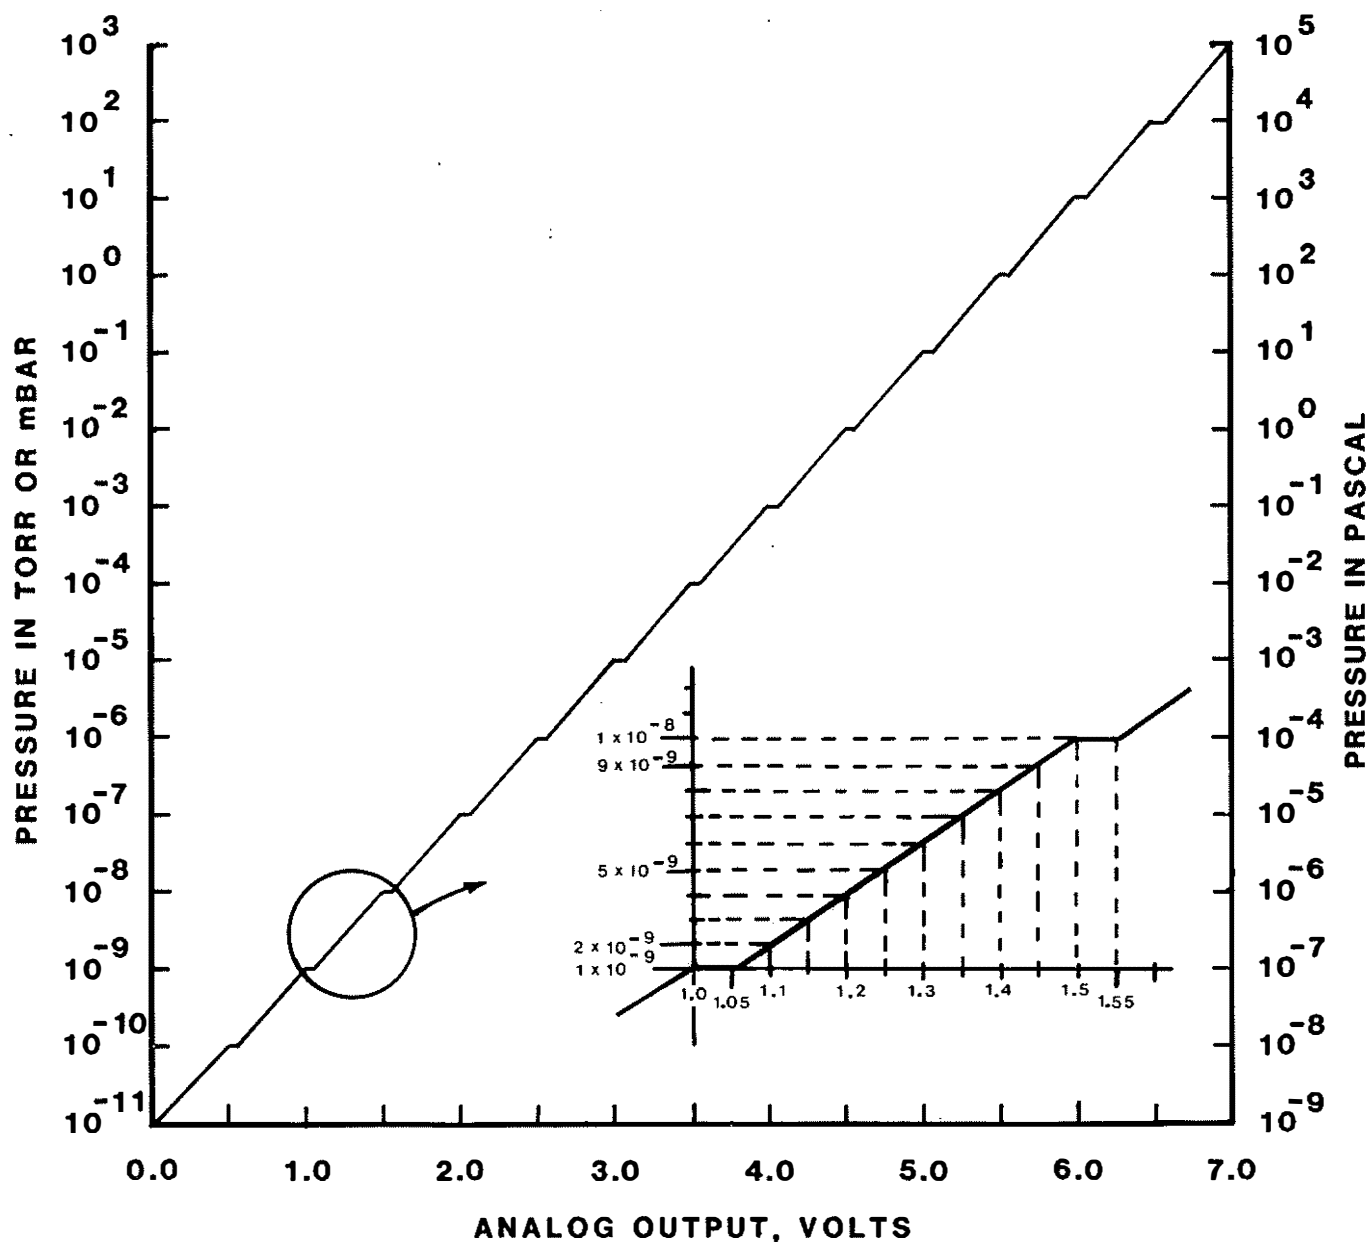

Figure 3-42. Analog Optional Pressure vs. Output Voltage
- a. The outputs are linearly proportional to the pressure in each decade within the range of the instrument (refer to Figure 3-42).